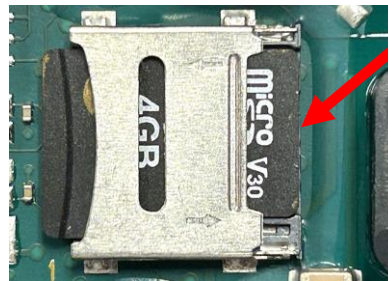

Figure 19
19. Gently lower the lock and slide towards the **LEFT as shown** until it stops (see Figure 19). The SD card should be flush with the front of the SD card holder.